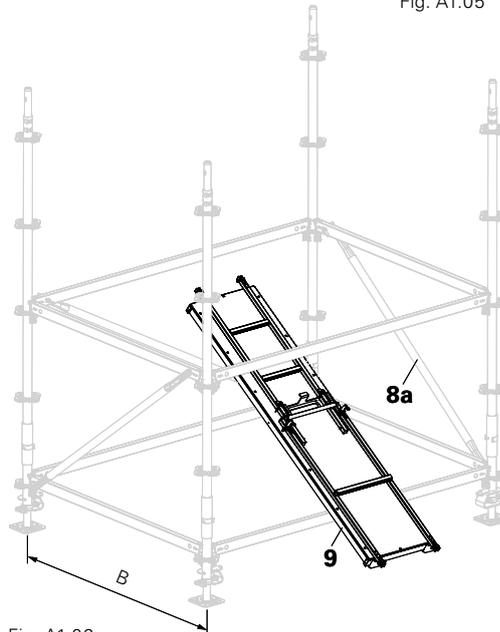

Fig. A1.06
* Number of decks depends on the width (W), see the following Table and Fig. A1.06.